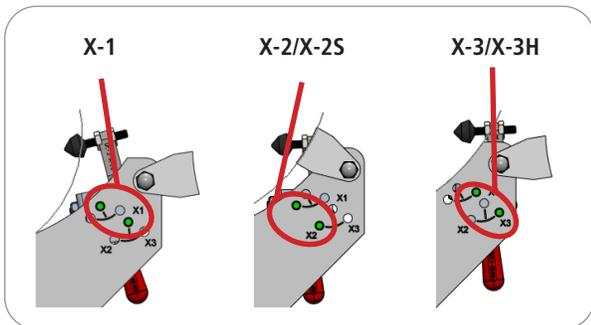

Figure 3 – Clamp Bracket Assembly Bolt Holes locations
1. The Clamp Bracket Assembly can be placed in three separate positions to provide proper placement of the Locking Clamps to securely hold the Apex model being prepared in the Installation Stand (Figure 3).
4. Using a 216 Can-Wrench or similar tool, remove the nuts and washers from the bolts mounting the Clamp Bracket Assembly to the Mounting Fixture and reposition the bracket to the proper position for the Apex model being used (Figure 3), and securely tighten the nuts with washers.